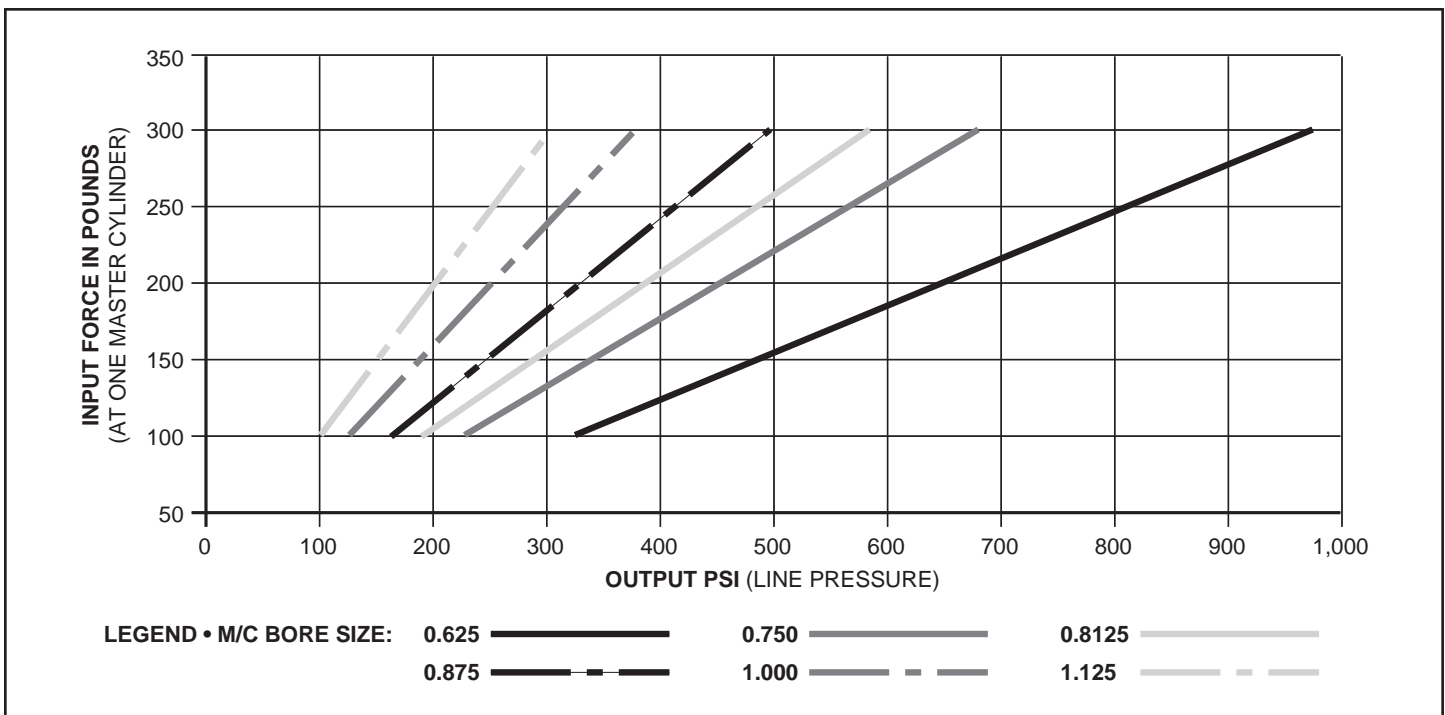

Figure 4. Input Force vs Output PSI
- Pressure gauges can provide invaluable data for system set up, evaluation, and adjustment. Not only can they accurately record changes made to bias before and after an event, they can provide the best indication of balance bar position relative to center. The pressure gauges can also indicate problems with pushrod adjustment and travel if the front and rear pressures do not rise at a consistent and proportionate rate. Figure 4 illustrates pressure output from different master cylinder bore sizes based on input.